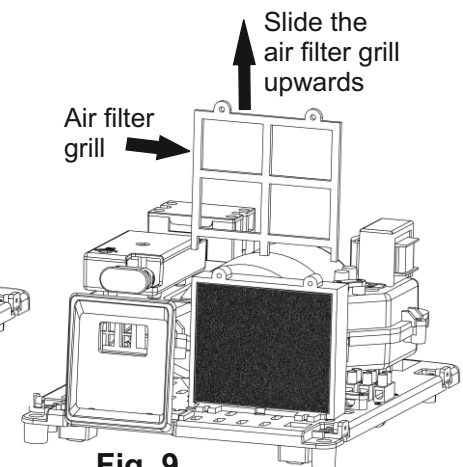

Fig. 9
- 3) Slide the grill up as shown in Fig. 9 to remove the grill. Replace the old filter with a new filter and fix the grill back in its place.